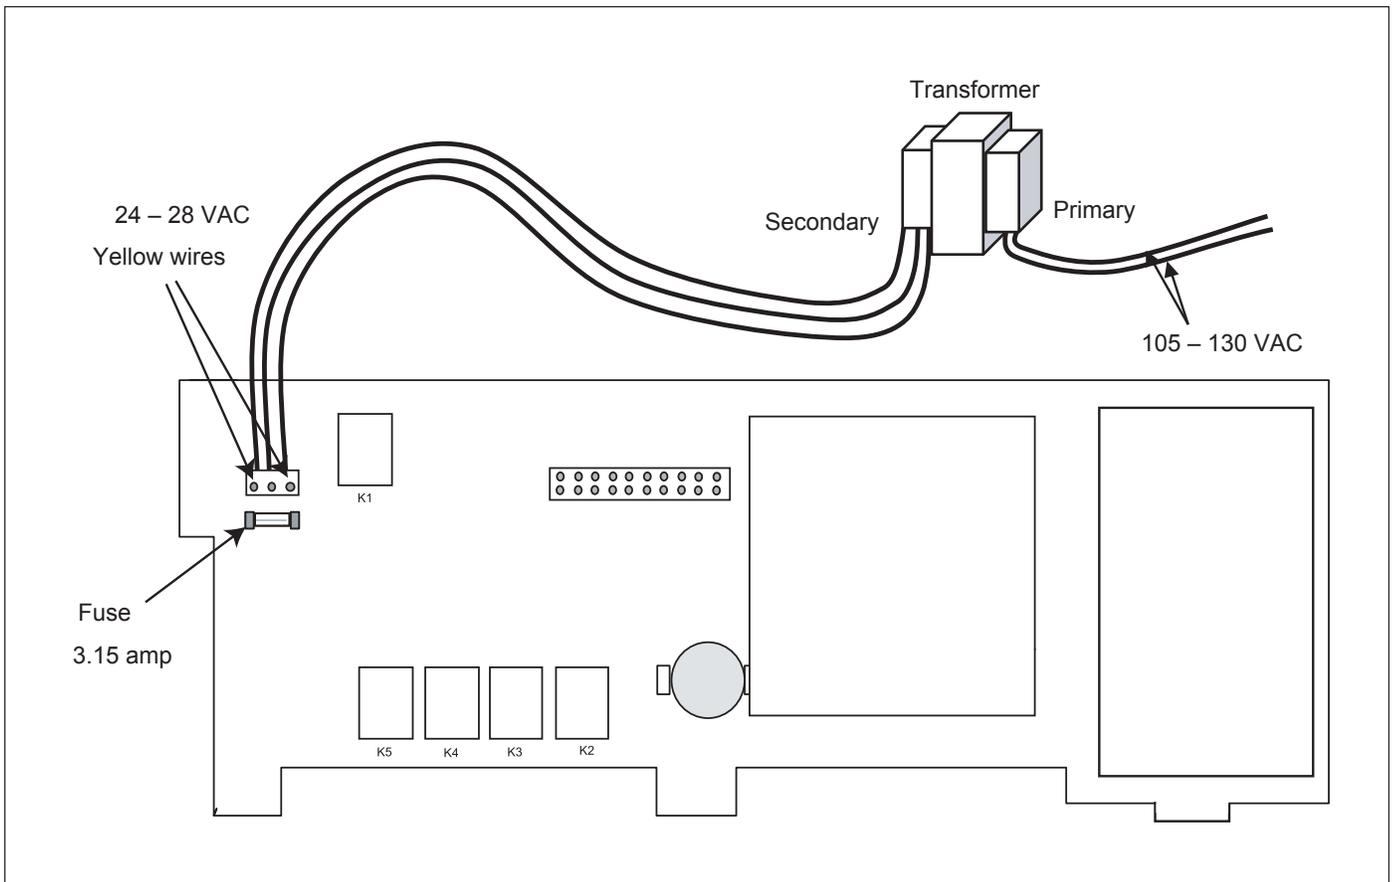

Figure 6. Transformer Primary and Secondary Voltages
- a. Transformer secondary wires (two yellows). See Figure 6. If the voltage is less than 22 VAC, check the incoming (primary power) to the system.